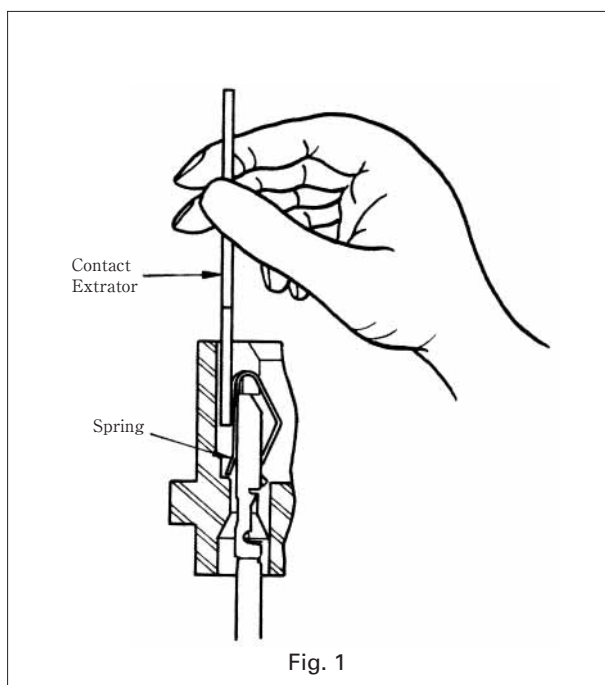
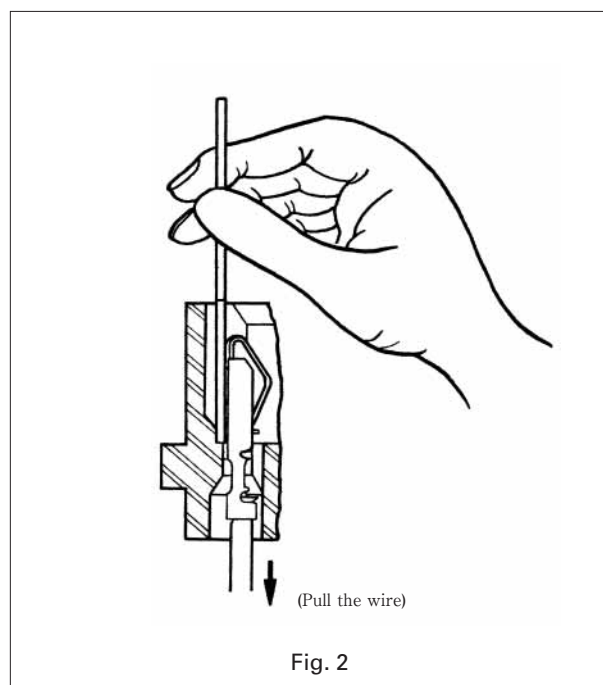

Fig. 1
Fig. 2
1. Hold the Contact Extractor, placing the tip of the Extractor on the tip of a contact, then insert it between the contact and the housing, following to the Fig. 1.
3. Above Fig. 1 and Fig. 2 show how to extract a contact from socket housing. The same procedure can be employed to extract a contact from pin housing.